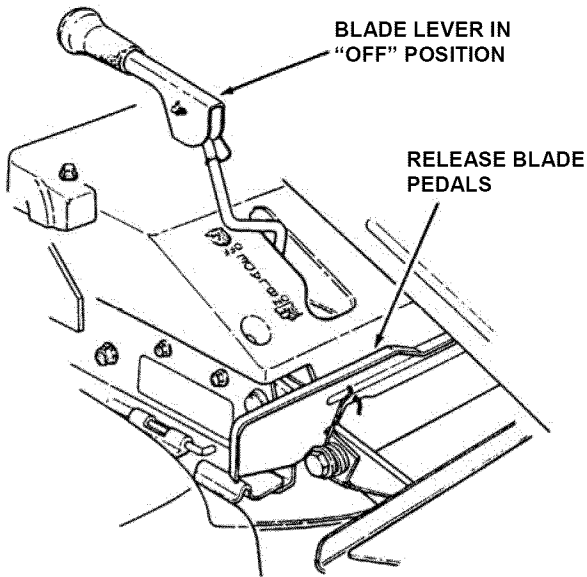
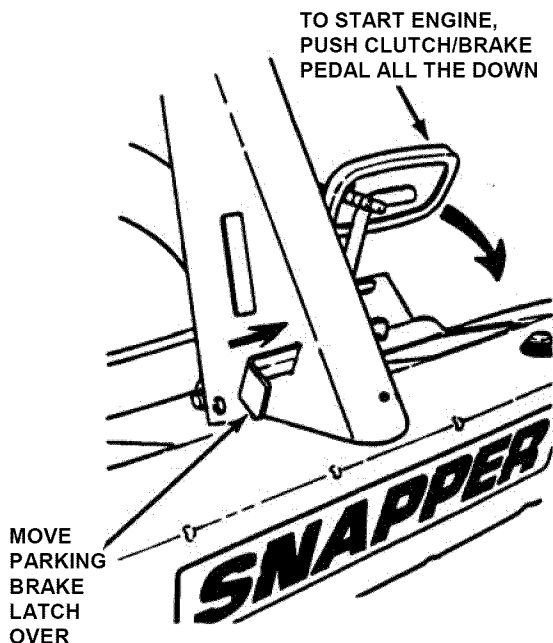

FIGURE 2.4
FIGURE 2.8
1. Move transmission shift lever to (N) Neutral position. **DO NOT** start engine with transmission shift lever in a drive position.
2. Make certain the Blade Lever is in the "OFF" position. See Figure 2.4.
IMPORTANT: When the ignition key is turned to "ON", and the recoil handle is pulled, the engine will turn over, but will not start unless the Clutch/Brake Pedal is pressed all the way down with Parking Brake engaged (See Figure 2.8) and the Blade Lever is in the "Off" position (See Figure 2.4). Start engine as follows:
3. Press Clutch/Brake Pedal all the way down, move Parking Brake Latch over and release the Clutch/Brake Pedal to set Parking Brake. See Figure 2.8.